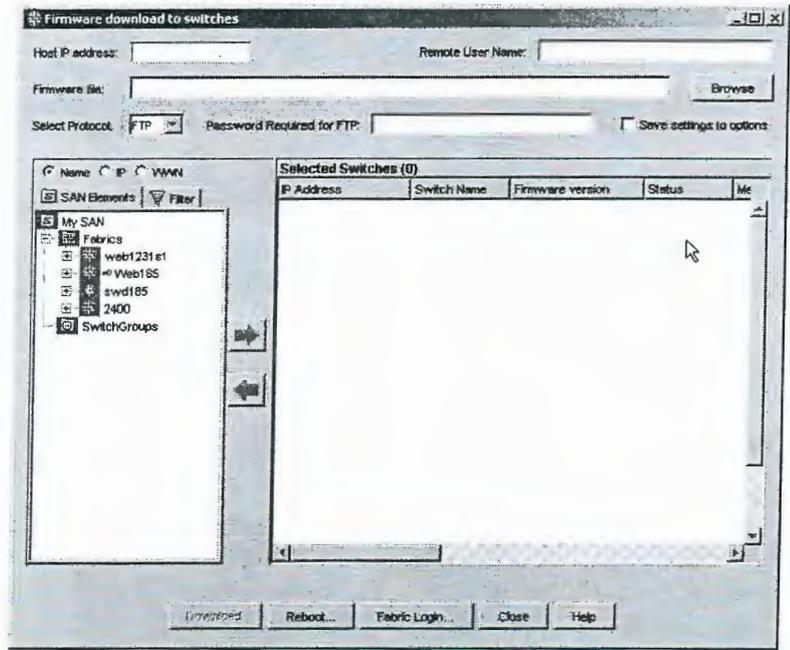

Figure 12-1 Firmware Download to Switches Window
2. From the **Tools** menu, select **Firmware download to switches...** The **Firmware download to switches** window opens (Figure 12-1).